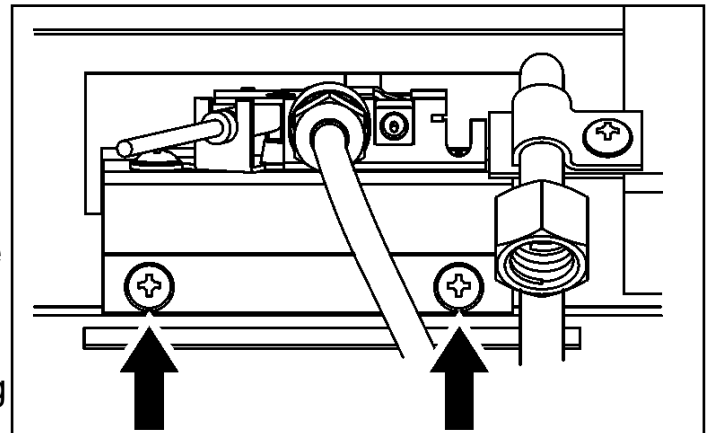

Figure 37. Pilot / pilot bracket assembly removal
5. Remove the two screws from the pilot bracket (See figure 37).